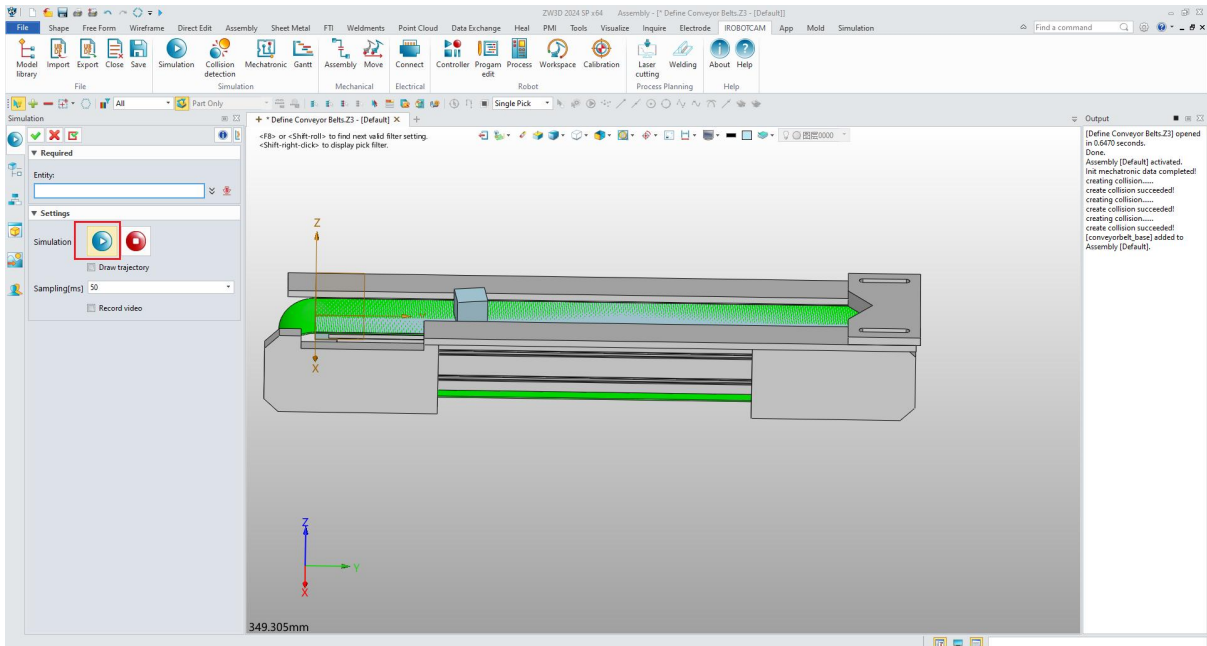

Figure 6-20: Simulation Verification
- Observe the material being transported to the right side of the conveyor belt. (Figure 6-20)